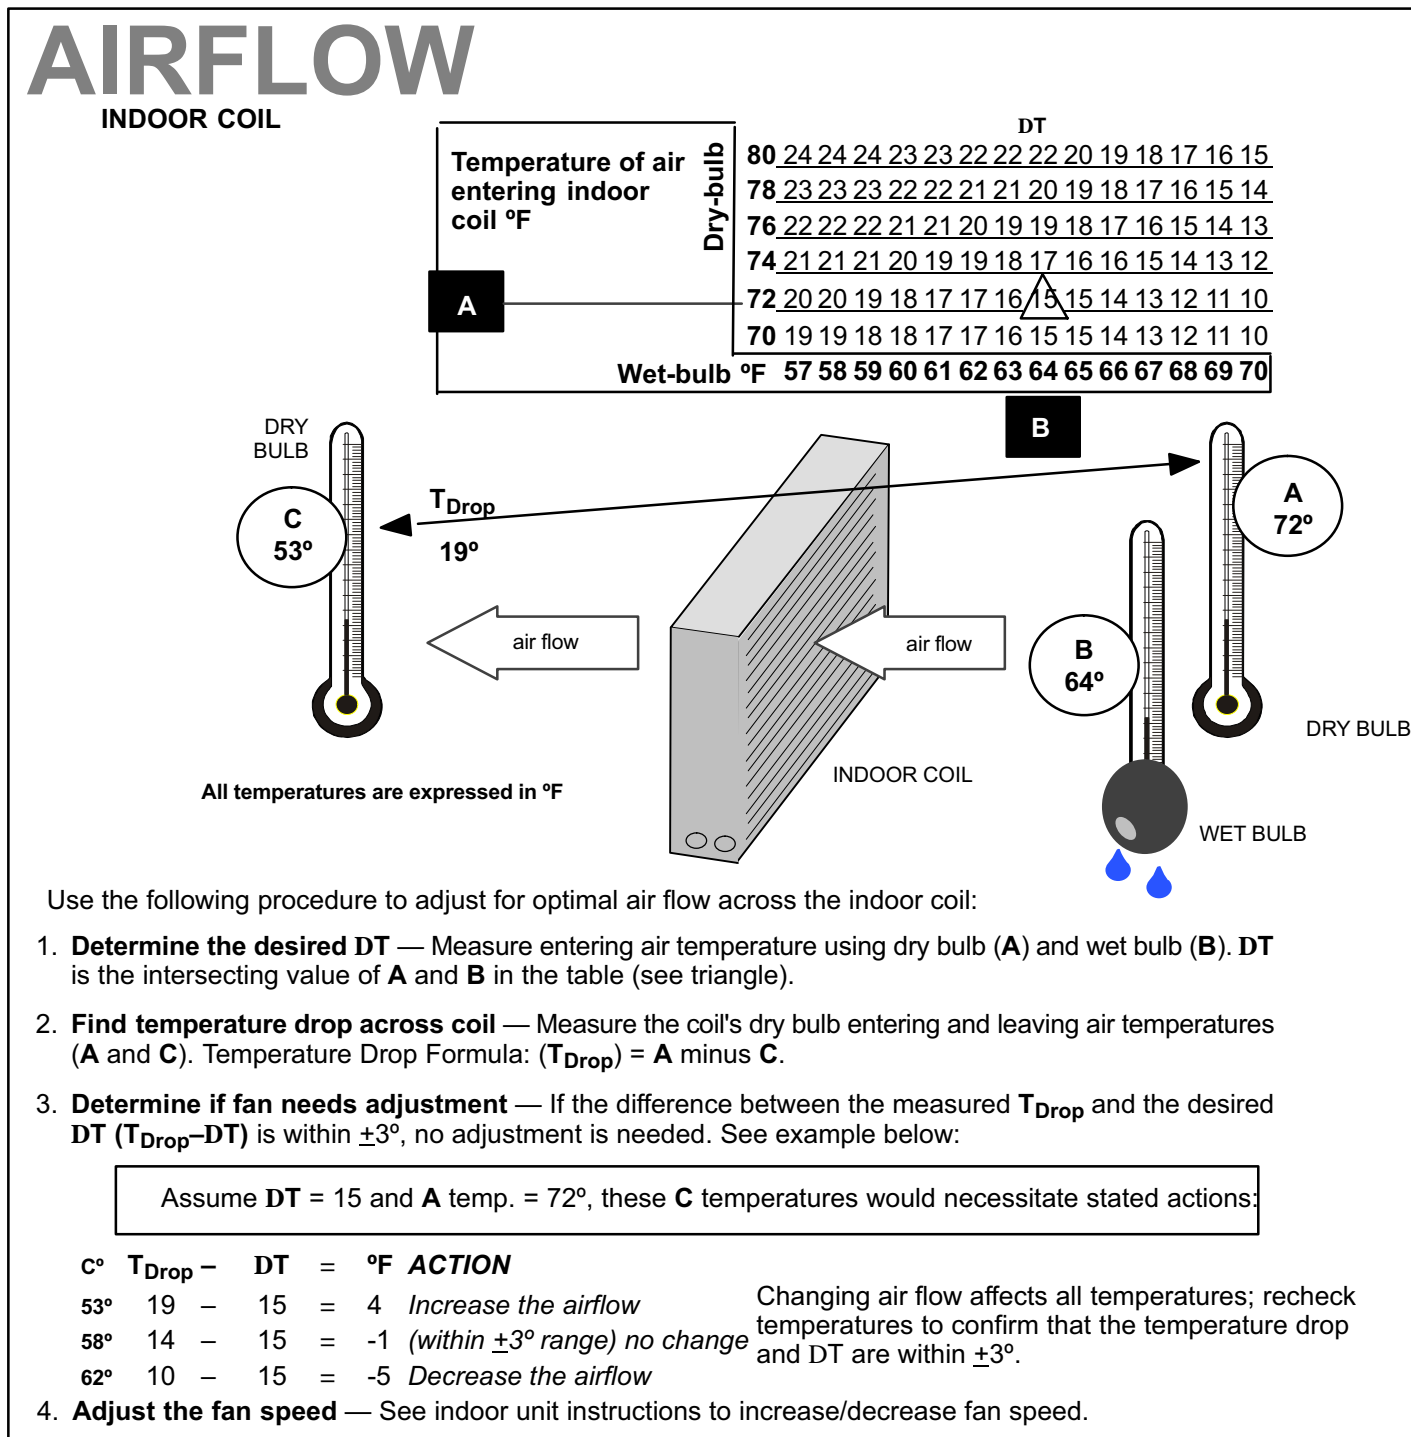

Figure 18. Checking Indoor Airflow over Evaporator Coil using Delta-T Chart
This system uses HFC-410A refrigerant which operates at much higher pressures than HCFC-22. The pre-installed liquid line filter drier is approved for use with HFC-410A only. Do not replace it with components designed for use with HCFC-22. This unit is NOT approved for use with coils which use capillary tubes or fixed orifices as a refrigerant metering device. Check airflow using the Delta-T (DT) process using the illustration in figure 18.